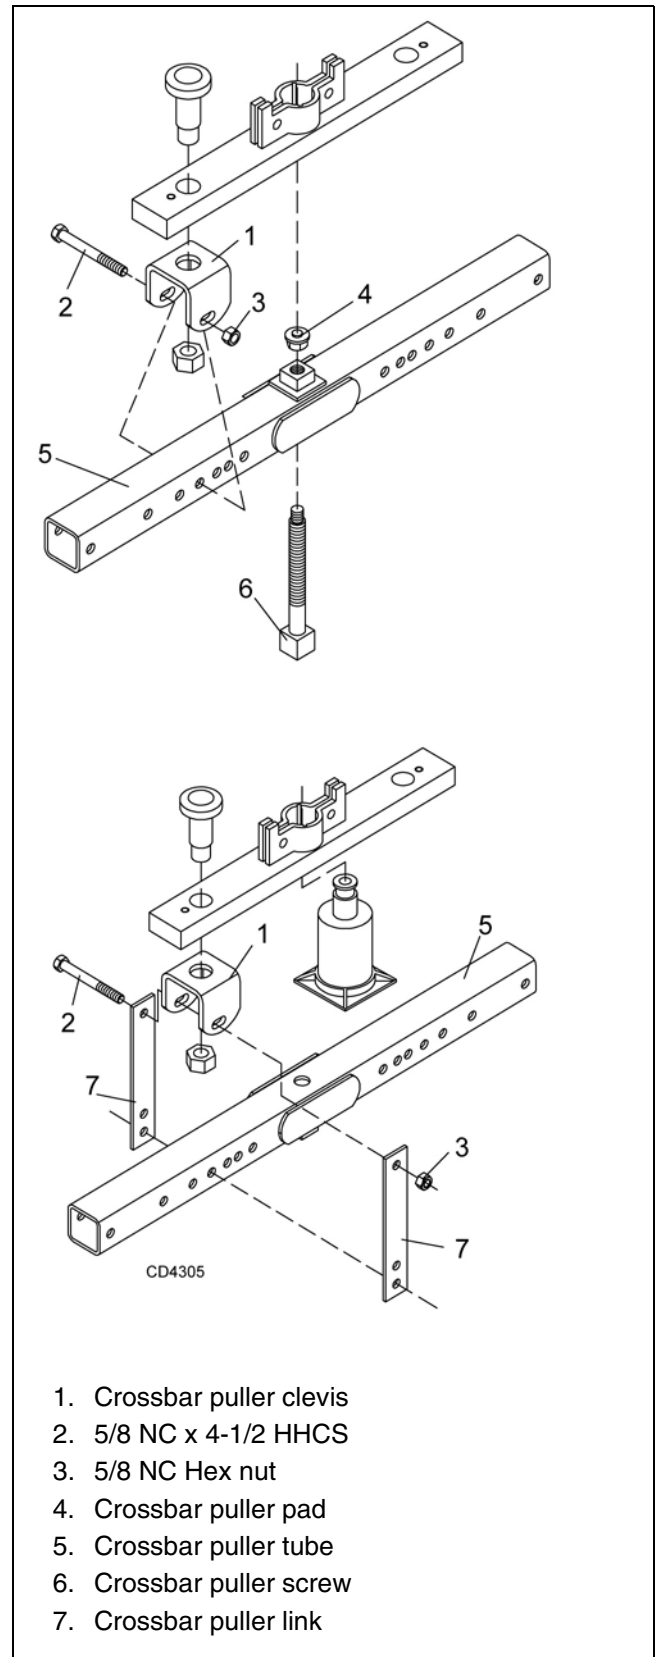

Figure 14. Crossbar Removal
NOTE: You will need to use either the puller screw (Item 6, Figure 14) or a small hydraulic jack to remove the crossbar.
3. Refer to Figure 14. Remove cotter pin from bottom of crossbar and remove nut and washer.
4. Attach a clevis (1) to each end of crossbar, using blade pins, and nuts.
5. Position tube assembly (5) with threaded nut (4) toward crossbar for puller screw removal or down for hydraulic jack removal.
6. For removal with puller screw, attach tube (5) to each clevis with bolts (2) and nuts (3). Place pad (4) in nut and thread puller screw (6) into nut from bottom. Tighten until pad is solid against gearbox shaft. For best results, strike head of puller screw with a hammer while tightening with a wrench.
7. For removal with a jack, attach tube to each clevis with puller links (7), bolts (2), and nuts (3). Place jack on tube with end of jack pressing against gearbox shaft. Slowly apply force with jack.